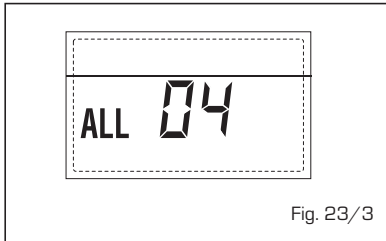

Fig. 23/3
- **C.H. FLOW SENSOR ANOMALY ALARM 05** (fig. 23/4)